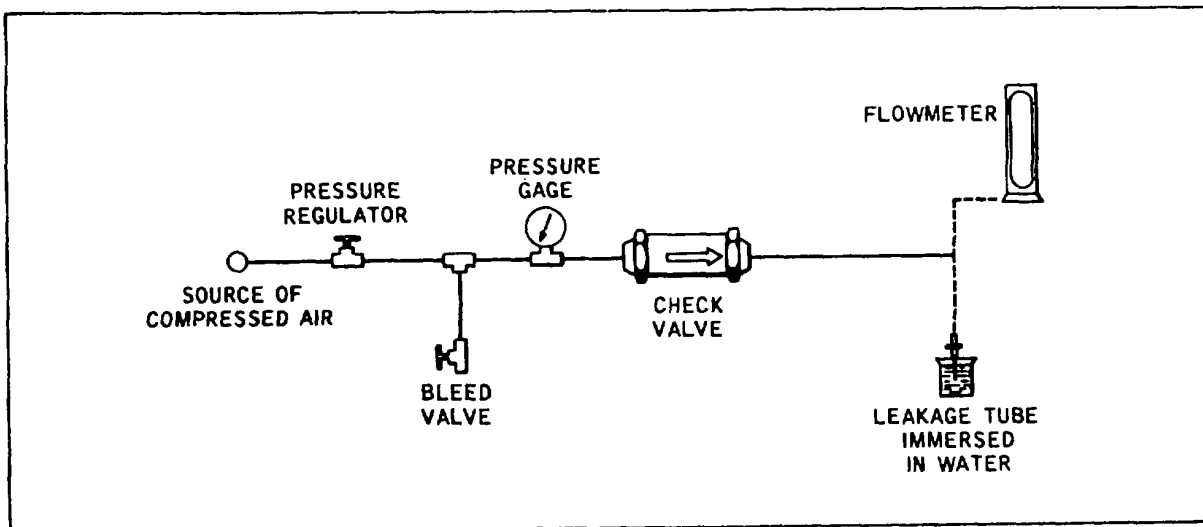

Figure 4-4. Set-up for Testing Check Valve
a. Apply a thin film of pneumatic system grease (Specification MIL-L-4343) to threads of body screw (2).
b. Install poppet guide (8), spring (7), poppet (6), seat retainer (5) and valve seat (4) in valve body (9).
c. Position O-ring packing (3) in groove of body screw (2). Screw body screw into valve body (9) and tighten with a torque of 600 ± 25 pound-inches.
a. Install check valve in test set-up as shown schematically in Figure 4-4, except reverse valve so free flow arrow points toward air supply.